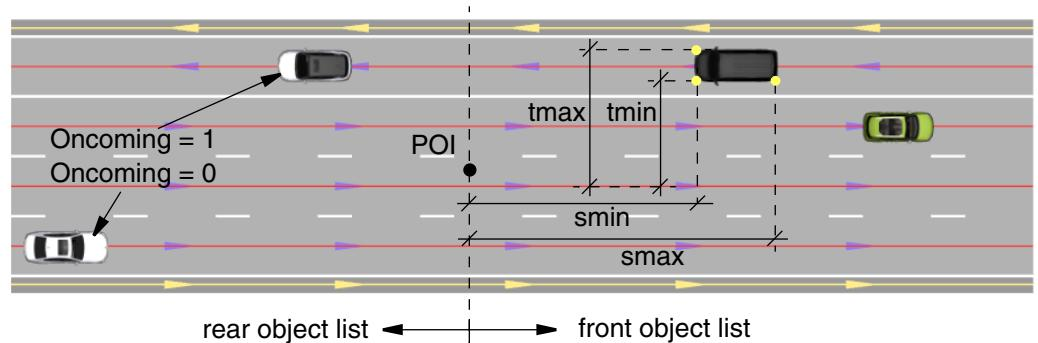

Figure 20.38: Object quantities
- **smin, smax, tmin, tmax** describe offsets of the objects' corners along the path of the lane the POI is currently on. tmin, tmax are given relative to the path the POI is on and smin, smax relative to the s-pos. of the POI (t is positive in driving direction left; s is positive in front of the POI). See Figure 20.38 for an example.